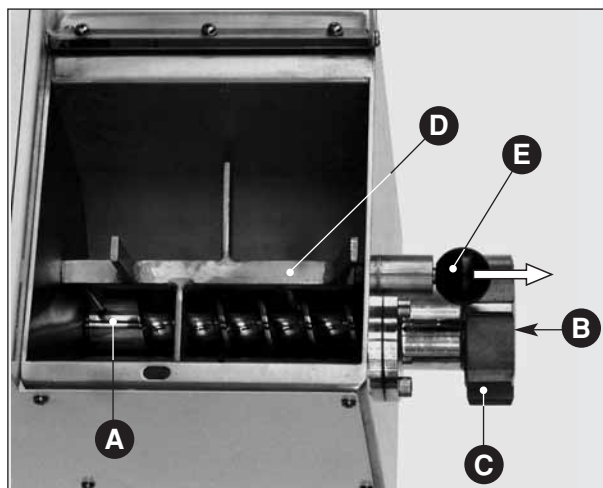

Fig. 1
- position the selector on “0” (Fig. 2 C) and verify the correct set-up of the Archimedean screw (Fig. 1 A) making sure that the cylinder part is sustained by the dragging shaft;
- then make sure that the plastic cap (Fig. 1 B) which replaces the drawplate is correctly positioned and the ring nut (Fig. 1 C) is tightly well-screwed on;
Fig. 1 bis
- lastly lock the mixer (**Fig. 1 D**) tightly in its seat by means of the head-knob (**Fig. 1 E**) or tighten the mobile support in the TR 75/E (**Fig. 1 bis** see page 21).